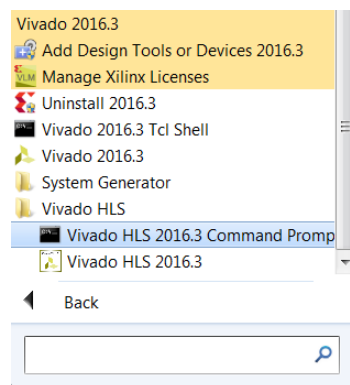

Figure 4-1: Vivado HLS Command Prompt
- On Windows use **Start > All Programs > Xilinx Design Tools > Vivado 2017.4 > Vivado HLS > Vivado HLS 2017.4 Command Prompt** (Figure 4-1).